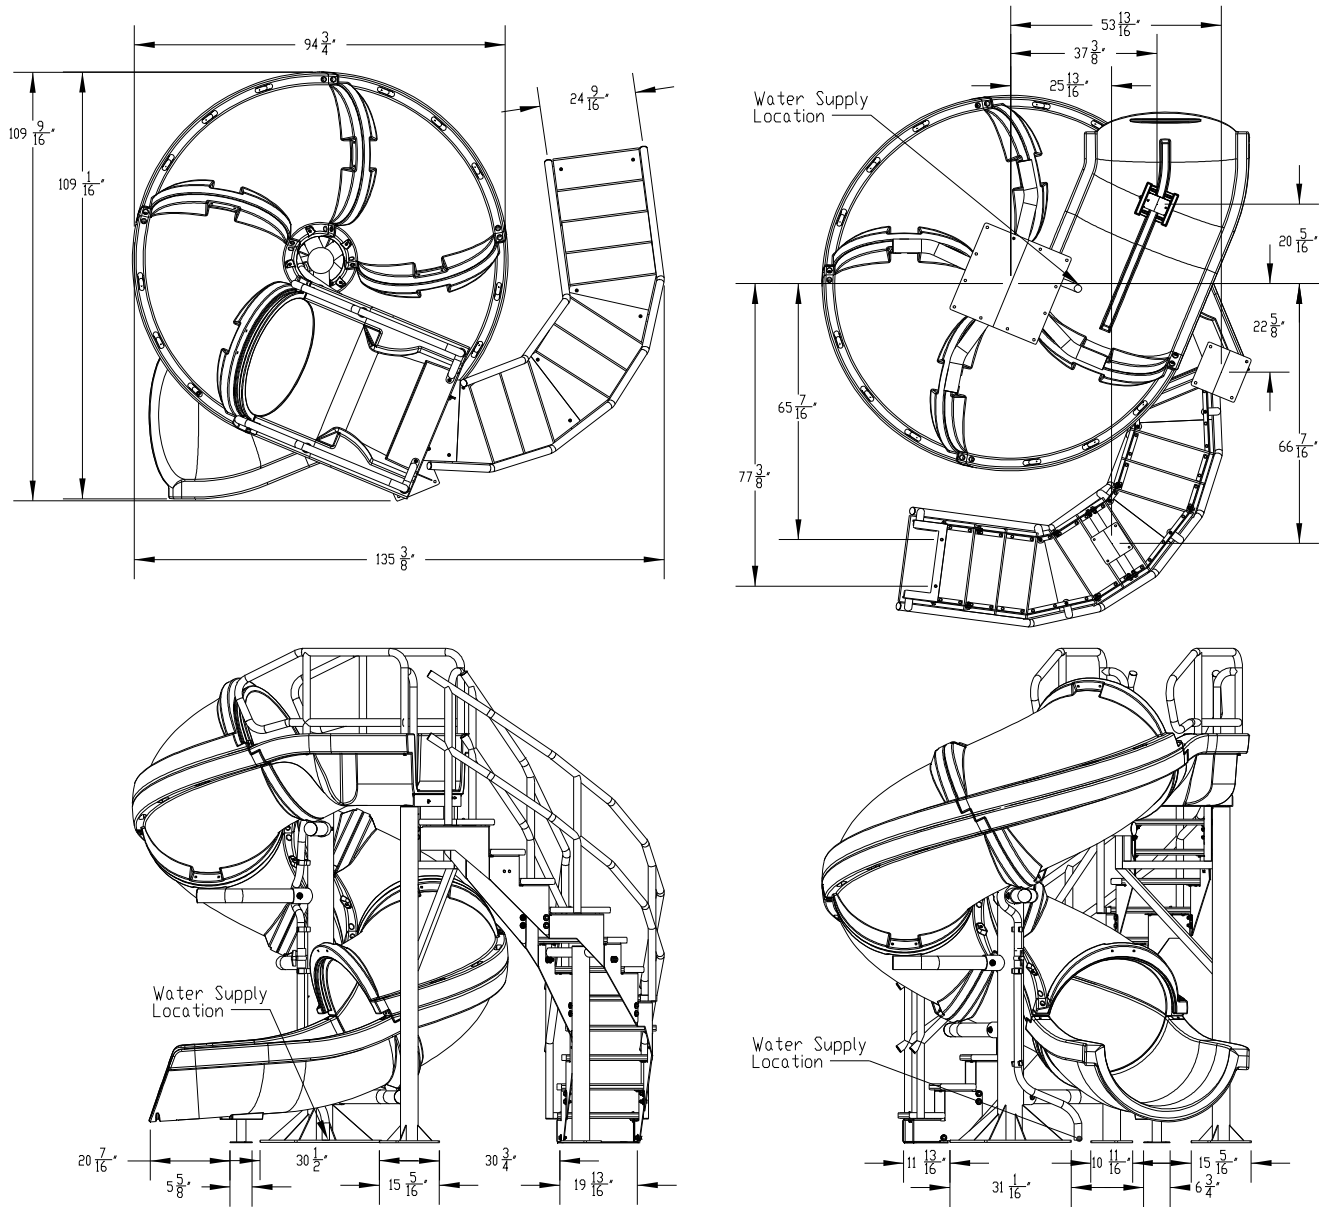

FIG. 1
1) First, insert all five of the Branch Arms (4) into the Main Support (5). Ensure that the arms slide into the support sockets without damaging the powder coating. Align the holes in the main tube support with the holes in the branch arm and attach using the hardware shown in Figure 1. The required hardware is as follows: 1/2" – 13 x 5" Hex Head Cap Screw (15), 1/2" Flat Washer (17), 1/2" Nylon Washer (22), and 1/2" Nylon Washer (22), 1/2" Flat Washer (17), 1/2" Lock Washer (18), 1/2" Hex Nut (20) on the other side of the support. **It is important not to tighten the hardware at this point. ANTI-SEIZE NEEDS TO BE USED ON ALL BOLTS, and should be applied to the threading before attempting to place the nut on the bolt.**